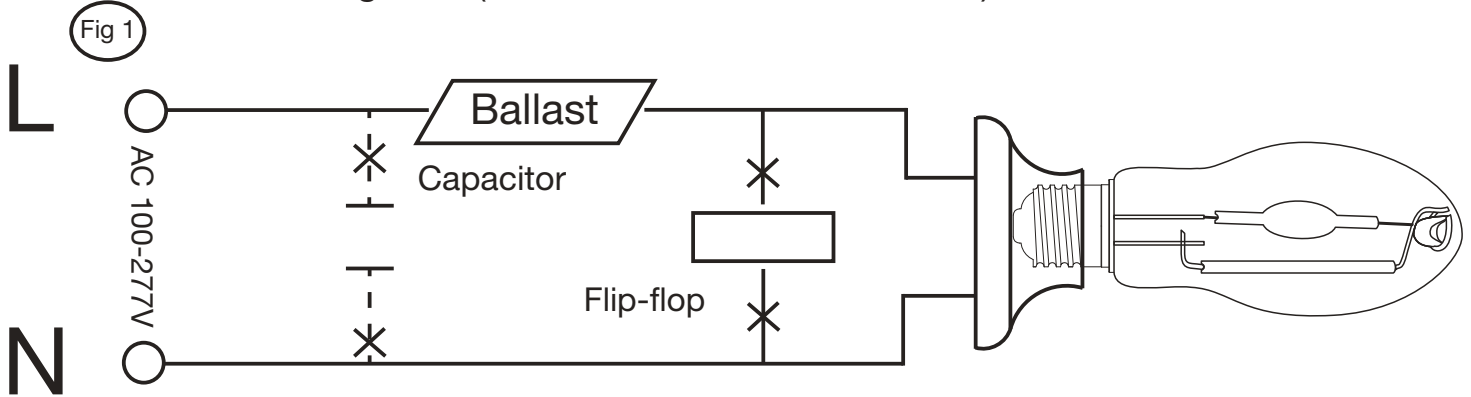

Fig 2
2. Reconnect directly to the existing lamp holder. Shown as Figure 2